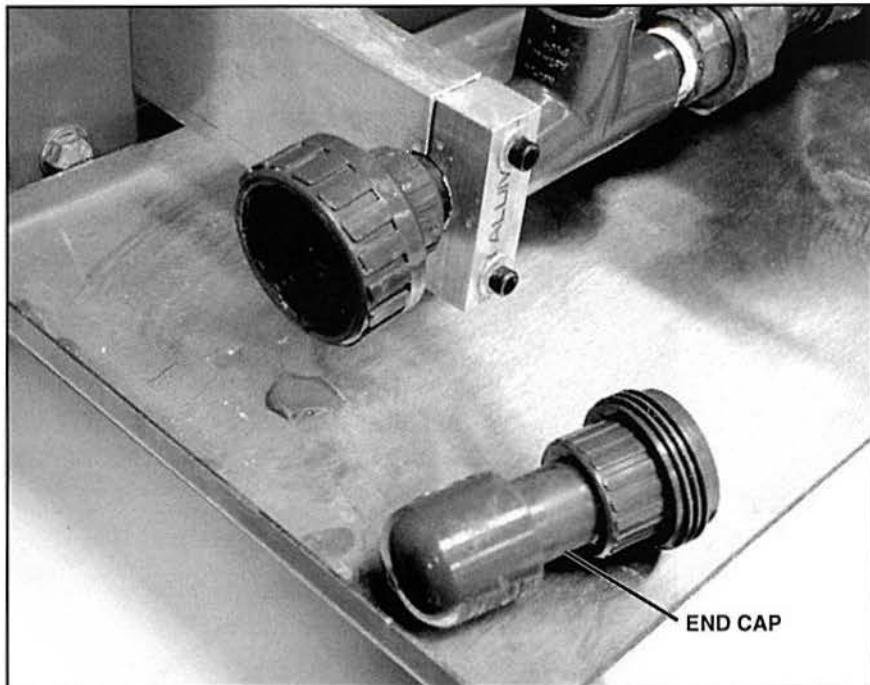

Figure 40. End Cap Removed
D. When the locking ring is completely loose, remove the end cap as shown in figure 40.